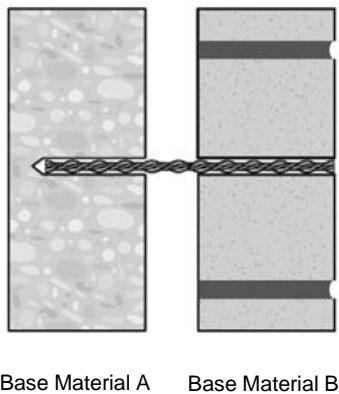

Figure 1
**1.Strengthening of the connection between masonry façades and inner walls:** Once the holes have been drilled through Base Material B and into Base Material A, the dedicated setting tool is used to drive the Heli-Brick into the two base materials (Figure 1). The load transfer from material B to material A with Heli-brick was not tested and technical data of this document are not to be used and do not apply to this application case. and OST is mandatory to verify pullout loads.
**2.Strengthening of horizontal joints in masonry facades and inner walls:** In the wall that needs strengthening (Base Material B) the mortar in horizontal joint is removed to allow the positioning of the horizontal rod. In the joint perpendicular to the wall face, holes are prepared in Base Material B and Base Material A as prescribed per the operating instructions. The dedicated setting tool is then used to drive the Heli-Brick into the two base materials (Figure 1), and connectors are attached to the exposed ends of the installed Heli-Brick. Finally, additional Heli-Brick rods are woven through the holes of the connectors (Figure 2). This creates a net that keeps the façade in plane.